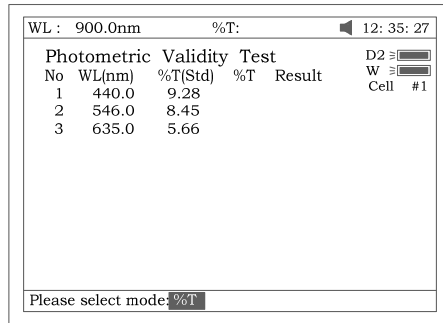

Fig 92
3. Press **[F2]** to select test mode (Abs or %T, Fig 92).